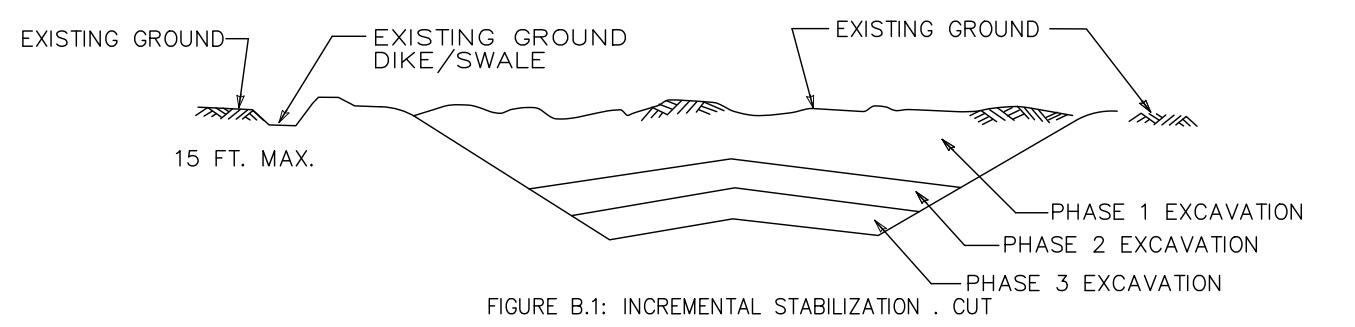

FIGURE B.1: INCREMENTAL STABILIZATION - CUT
2. CONSTRUCTION EXAMPLE (REFER TO FIGURE B.1):